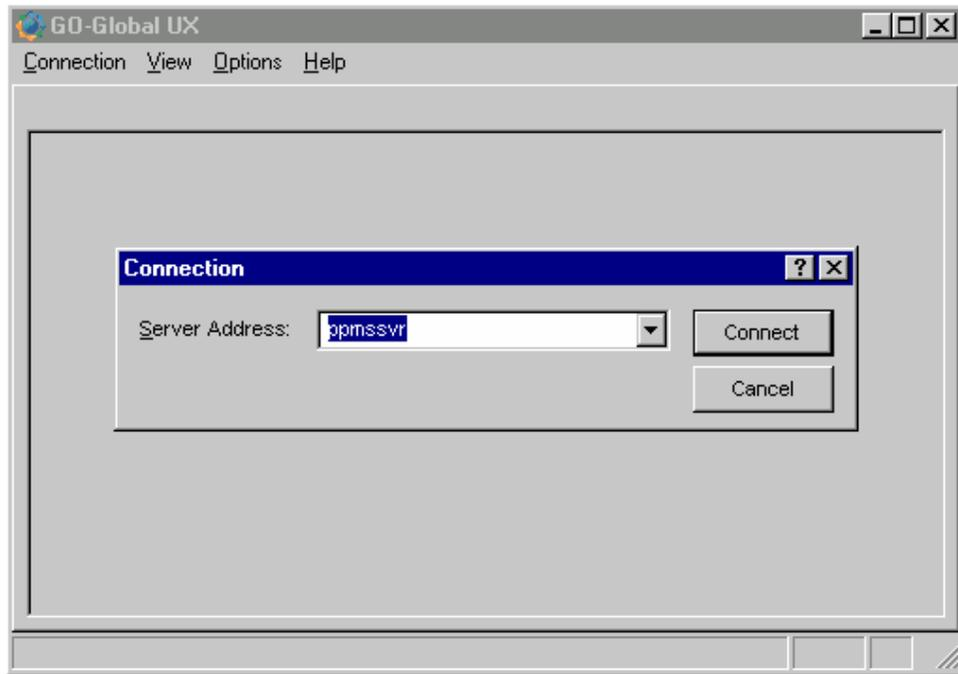

Figure 2
4. By default, Bridges will open a server selection window. See Figure 2 below.